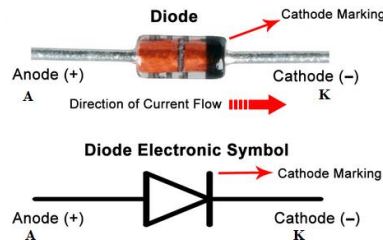

Fig.2. A typical low power silicon diode in a glass case
This component (Fig.2) has two terminals: the anode (A) and the cathode (K). The case is made from glass (low power diodes), plastic (low and medium power diodes) and metal-glass, metal-plastic or metal-resin (high power diodes). For low and medium power diodes, the cathode is marked with one (silicon diodes) or more (some crystal germanium diodes) colored bands.